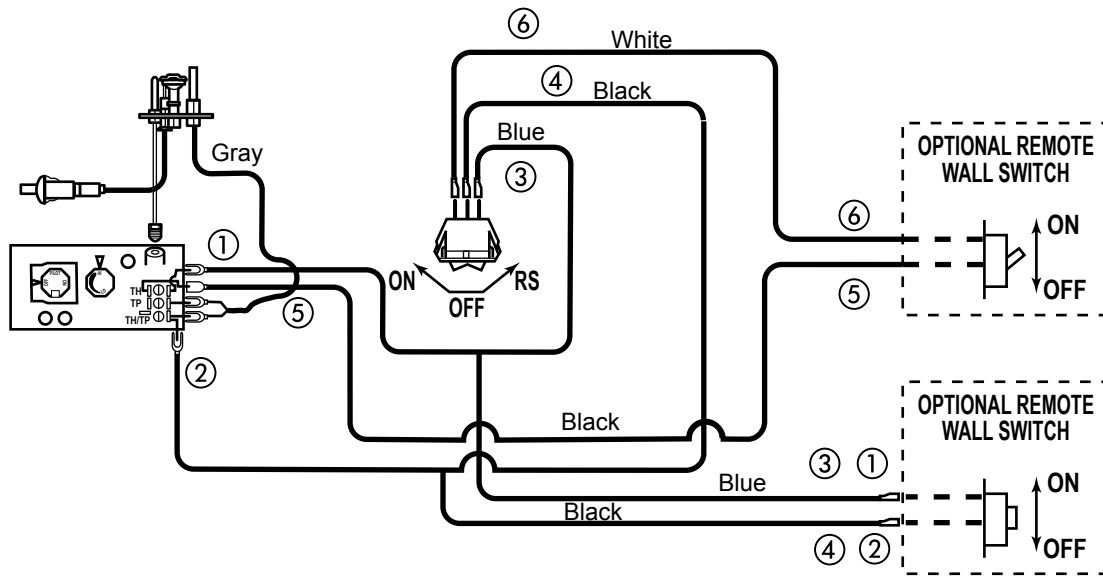

Figure 36 -
A remote wall switch and up to fifteen (15) feet of 18 Ga. wire may be used with this appliance. Attach the wall switch in a junction box at the desired location on the wall. *Figure 36*. Do not extend beyond the wall switch wire length provided.